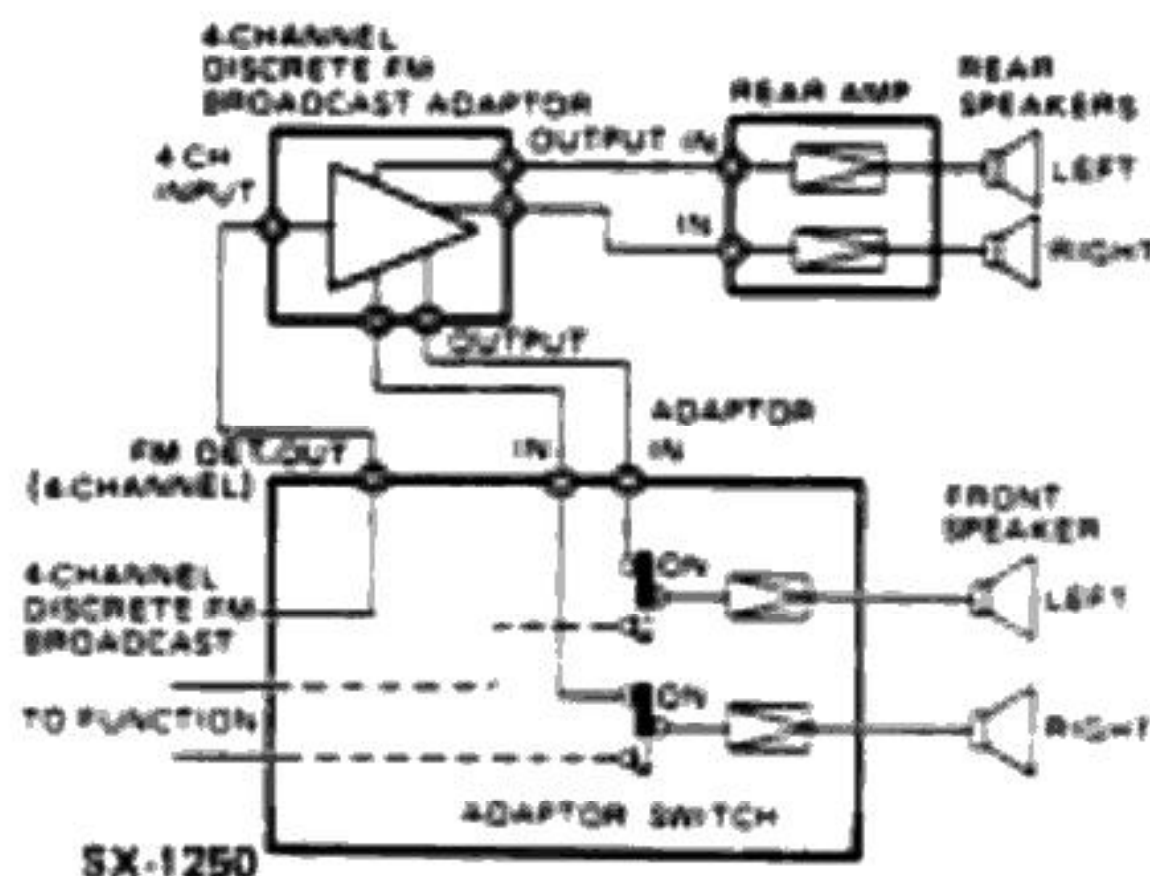

Fig. 28
1. The adaptor is connected to the FM DET. OUT jack of the receiver as shown in Fig. 28.